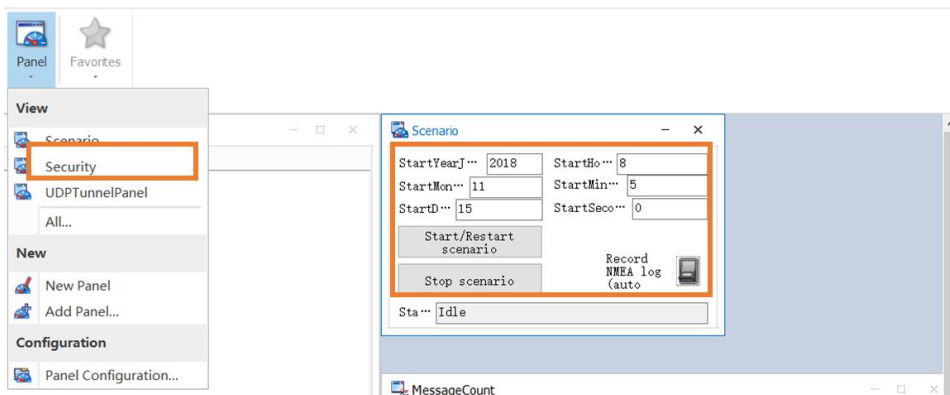

Figure 22: Starting the scenario
- ▶ Run the CANoe program, open the Scenario front panel, and configure the start time of GNSS simulation, as shown in the example (Figure 22).